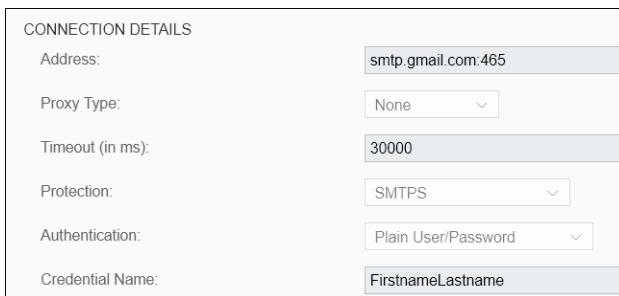

Figure 2.32 Configuring the Mail Adapter: Connection Tab/Connection Details
6. Click the **Connection** tab and configure the adapter according to your email account. The values shown in the screenshots (Figure 2.32) fit a Google email account. We briefly explain the parameters.
In the mail channel under **Connection Details**, specify the settings as shown in Figure 2.32.
As we propose to choose **SMTPL** as **Protection**, port **465** must be also specified in the **Address** field, as shown in Figure 2.32.
The **Credential Name** field, as shown in Figure 2.32, contains a simple string that refers to a deployed credentials artifact on the SAP Cloud Platform Integration server. You can't define the username and password directly on the configuration screen of the mail adapter; instead, it's necessary to deploy the credentials
4. Specify the properties of the **User Credentials** artifact. For **Name**, enter the value that you entered in the **Credential Name** field in the mail adapter (refer to Figure 2.32). For **User**, enter your email box username, and as **Password/Repeat Password**, enter the associated password. Leave the **SuccessFactors** checkbox deselected. This setting is only relevant when you define credentials to be used when connecting to a SAP SuccessFactors system (see Figure 2.36).
4. For **Host**, enter “smtp.gmail.com”, and, for **Port**, select **465 (SMTPS)** (as these are the settings also specified in the mail receiver adapter, compare with Figure 2.32).